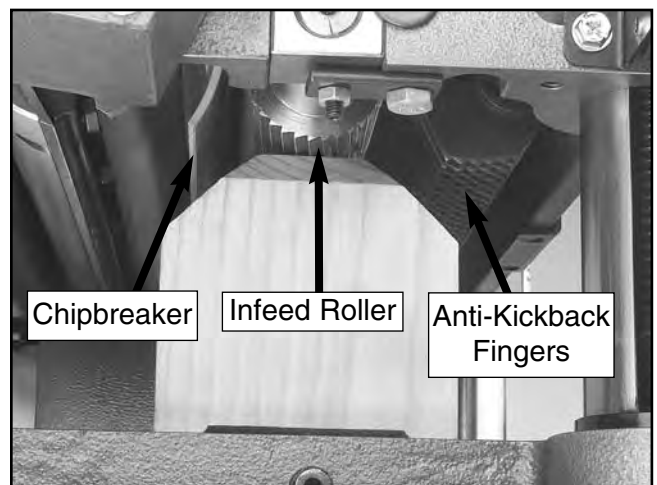

Figure 37. Feed roller height inspection.
3. Raise the table until the gauge block barely touches the infeed roller. See **Figure 37**. Do not change the position of the table.